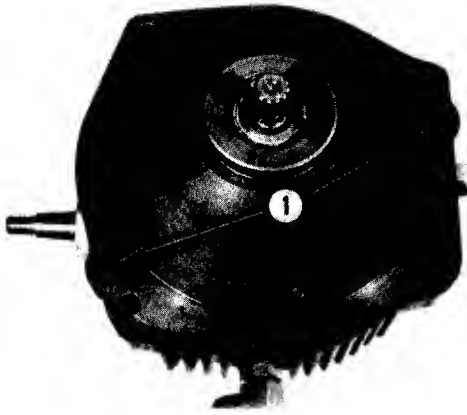

FIG. 4.45-OUTPUT SHAFT SIDE UP
8. Invert transmission on wood block so that output shaft is up as shown in Fig. 4.45.
9. Remove two cap screws, No. 1, Fig. 4.45, and then re-install about two threads.